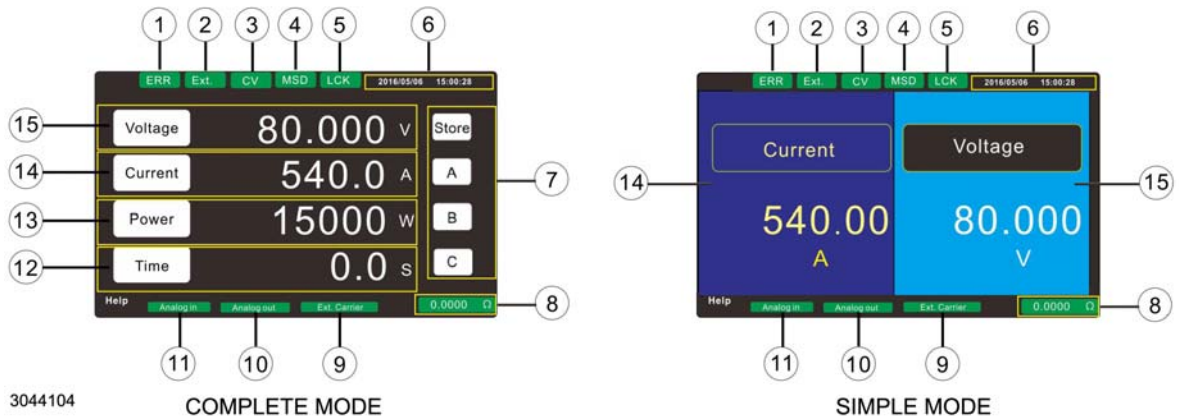
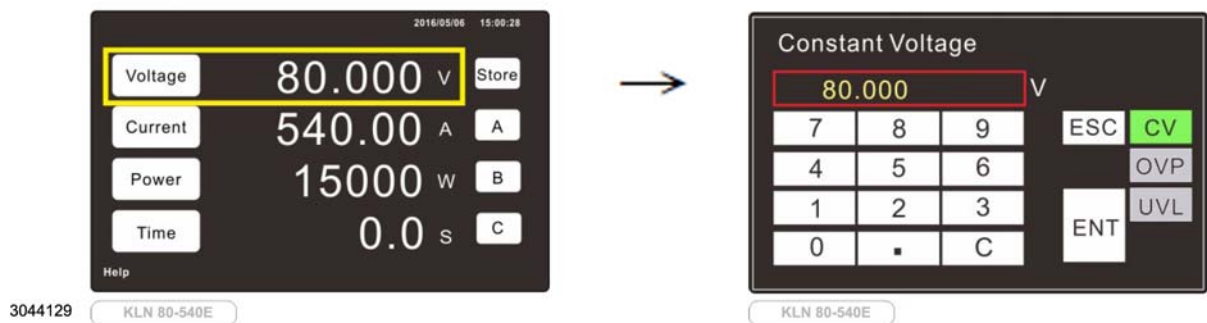
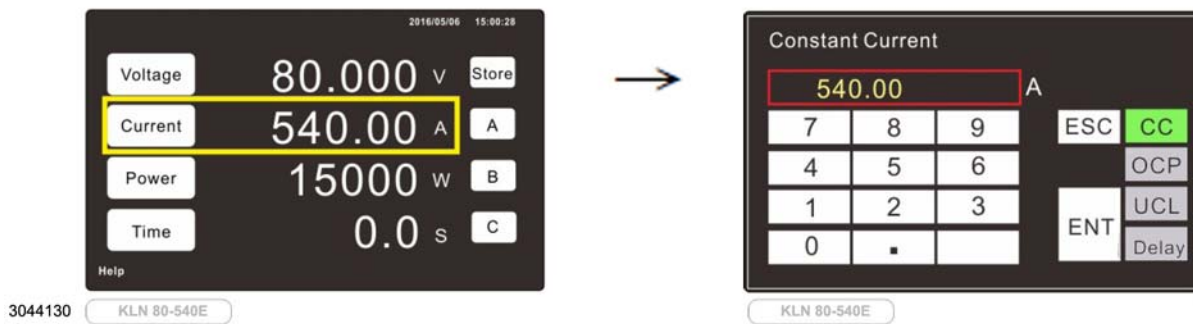

FIGURE 3-2. HOME SCREEN^(†)
FIGURE 3-3. TOUCHSCREEN SETTING OF VOLTAGE, OVERVOLTAGE PROTECTION AND UNDERVOLTAGE LIMIT
FIGURE 3-4. TOUCHSCREEN SETTING OF CURRENT, OVERCURRENT PROTECTION, UNDERCURRENT LIMIT AND PROTECTION DELAY(‡)
NOTE: Unless otherwise noted, operating instructions start from the Home screen (see Figure 3-2). Press HOME switch for at least 1.5 seconds to exit submenus and return to the Home screen.
Table 3-2 shows the functions of all displays, indicators and pressure sensitive keys that may appear on the Home screen keyed to item numbers appearing in Figure 3-2. Note indicators are visible only as applicable. The look of the Home screen depends on the selection of Complete Mode or Simple Mode (See PAR. 3.4.2)
If necessary, press **HOME** switch for at least 1.5 seconds to bring up the home screen (see Figure 3-2). To adjust the value of voltage or current see either A or B below.
B. TOUCHSCREEN. Touch the **Voltage** or **Current** key (or the corresponding numerical value) shown on the display (see Figure 3-3 for voltage, Figure 3-4 for current). **CV** (Constant Voltage) or **CC** (Constant Current) is highlighted in green. Touch the numerical keys on the virtual keypad shown on the display in order to change the value. Touch **ENT** (Enter) key on display to confirm, or **ESC** (Escape) to cancel.
If necessary, press **HOME** switch for at least 1.5 seconds to bring up the home screen (see Figure 3-3), then touch **Voltage** key. **CV** is highlighted in green. To change Overvoltage Protection or Undervoltage Limit value touch the **OVP** or **UVL** key, respectively. The key changes to yellow and the **OVP** or **UVL** value is displayed. Touch the keys on the virtual keypad shown on the display in order to change the value. Touch **ENT** key on display to confirm, or **ESC** to cancel.
If necessary, press **HOME** switch for at least 1.5 seconds to bring up the home screen (see Figure 3-4), then touch **Current** key. **CC** is highlighted in green. To change Overcurrent Protection or Undercurrent Limit touch the **OCP** or **UCL** key, respectively. The key changes to yellow and the **OCP** or **UCL** value is displayed. Touch the keys on the virtual keypad shown on the display in order to change the value. Touch **ENT** key on display to confirm, or **ESC** to cancel.
If necessary, press **HOME** switch for at least 1.5 seconds to bring up the home screen (see Figure 3-2), then touch **Current** key. **CC** is highlighted in green (see Figure 3-4). To change Overcurrent Protection Delay touch the **Delay** key. The key changes to yellow and the Delay value is displayed. Touch the numerical keys on the virtual keypad shown on the display in order to change the value. Touch **ENT** key on display to confirm, or **ESC** to cancel.
If necessary, press HOME switch for at least 1.5 seconds to bring up the home screen (see Figure 3-2). To adjust the value of power* see either A or B below.
All locally available functions of the power supply that can be accessed by the touch screen are available via the MENU^(†). If necessary, press **HOME** switch for at least 1.5 seconds to bring up the home screen (see Figure 3-2). Then press **ENTER** to access the MENU. The complete menu structure is shown in Figure 3-7. The MENU allows the user to select various functions (see PAR. 3.3.1) and change function values (see PAR. 3.3.2).